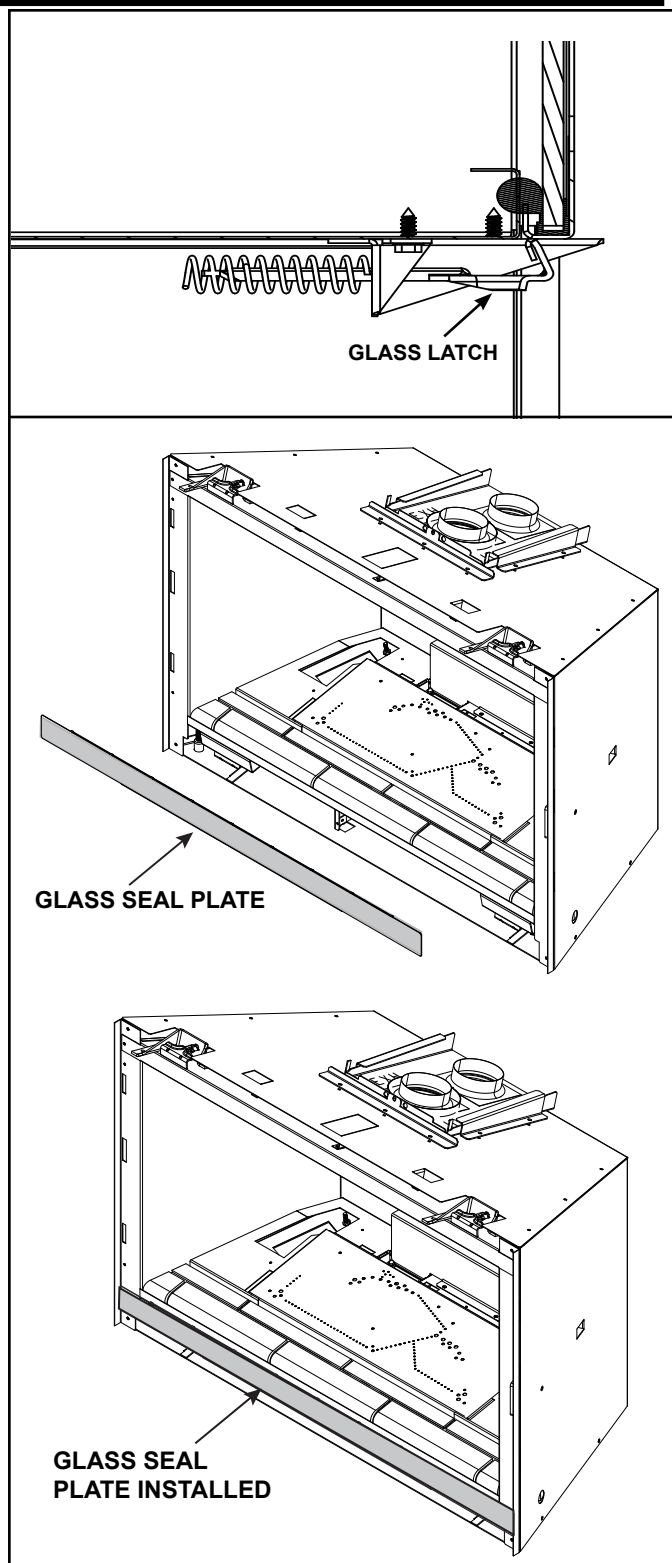

Figure 9.2 Glass Seal Plate and Glass Latch
- The glass assembly fastens to the fireplace in four places. Four of the fastening mechanisms are spring-loaded glass latches. An example of the glass latch is shown in Figure 9.2.